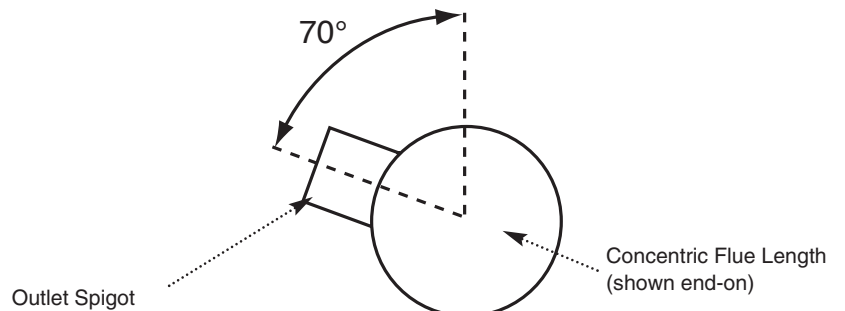

Fig. 7k
23. When under balconies or projections it is permissible to rotate the concentric flue length up to 70°, clockwise or anti-clockwise (Fig. 7k), if there is insufficient space to connect vertically.